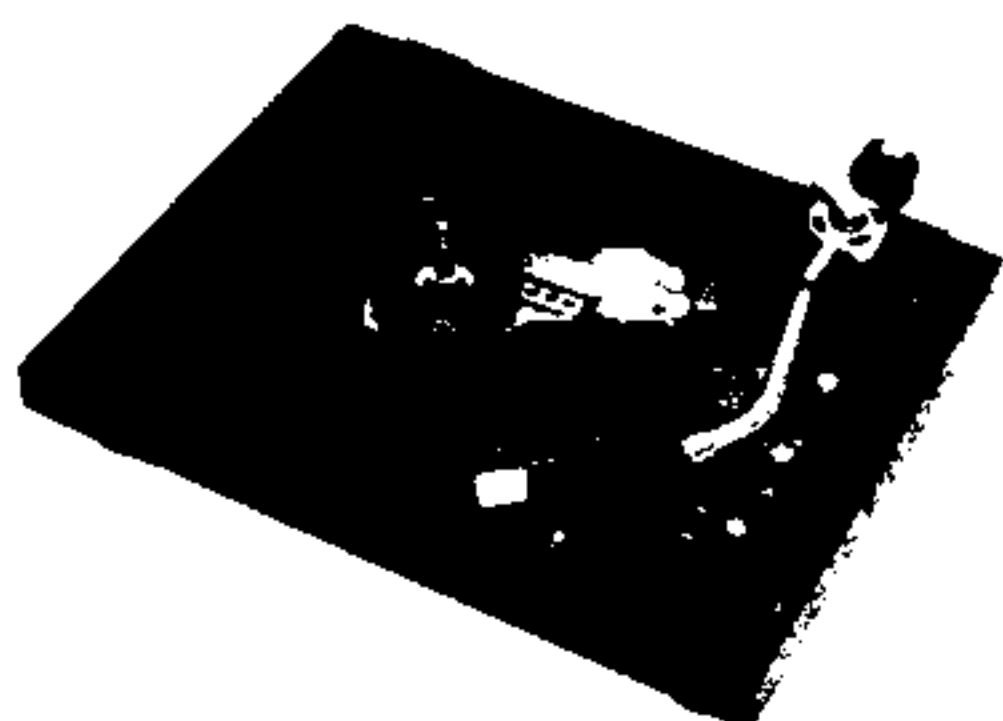

Fig. 2
5. Remove the speed selector knob and the pitch control knobs (Fig. 2)